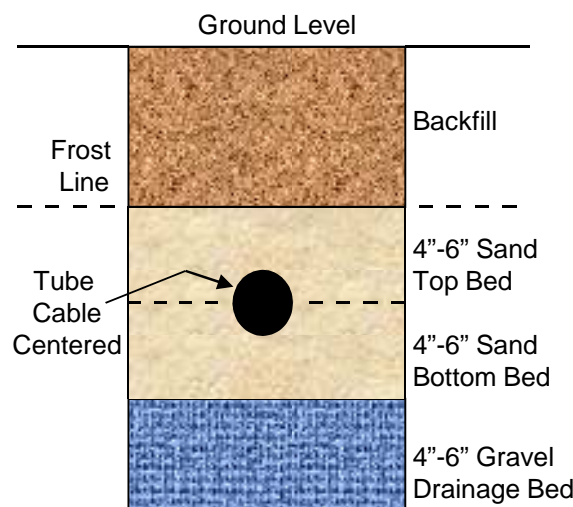

Figure 25
19.4 If an open trench method is used, the recommended technique is shown in **Fig. 25**: